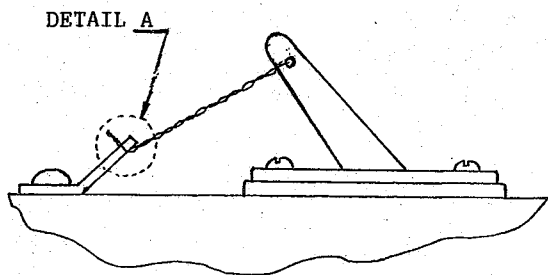

FIG 1 FITTING OF TELL-TALE WIRE
42. Tell-Tale Wire. Defined as a specified wire fitted to a control or switch to indicate that the control or switch has been operated, even though it may subsequently have been returned to its original position. Tell-tale wire should not restrict operation of the control or switch. Normally enamelled copper wire 0.355mm diameter is to be used for tell-tale purposes, and by its method of attachment, should unravel rather than break during operation of the control or switch. Tell-tale wire is to be fitted in accordance with the appropriate diagram. An example of a tell-tale fitting is shown at Fig 1.